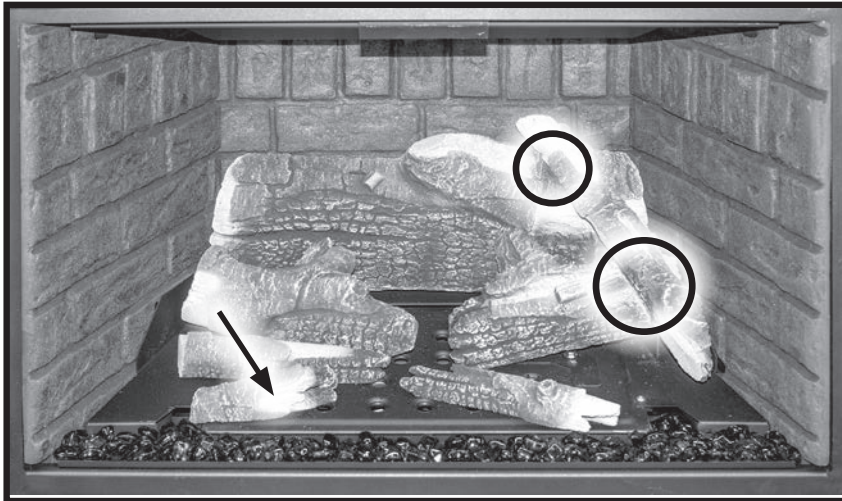

Figure 50. Final Ember Log & First Right Top Log.
5. Install the final ember log, as shown in Figure 50, by locating the drilled holes on the burner pins. Then install the first right top log by sitting the depression on the bottom side onto the half-round on top of the back log. The opposite end of the log sits into the notch on top of the right ember log.